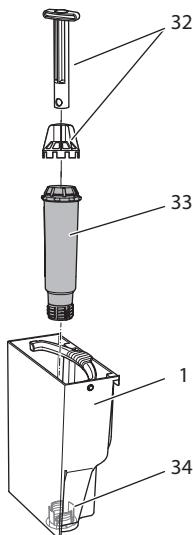

Fig. 19: Screwing/Unscrewing the water filter
- Remove the water filter (see Fig. 19 on page 51).
- 9. Insert a new filter in the water tank (see Fig. 19).
3. Remove the water filter (see Fig. 19).